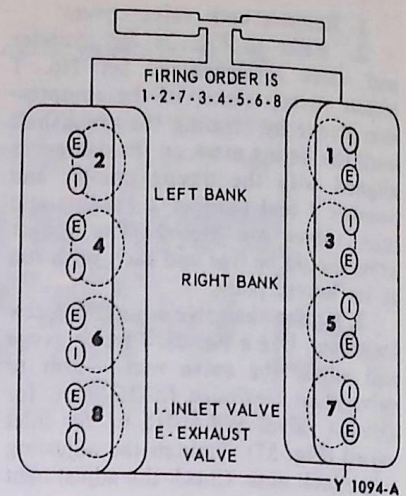

FIG. 36 Cylinder and Valve Arrangement
2. Refer to Fig. 36 for cylinder and valve arrangement. Set No. 1 piston on top center of the compression stroke by rotating the crankshaft until the timing mark on the damper is aligned with the timing pointer and number 1 and number 2 exhaust and inlet valves are closed. The rocker arms should be free and each push rod at its lowest point.